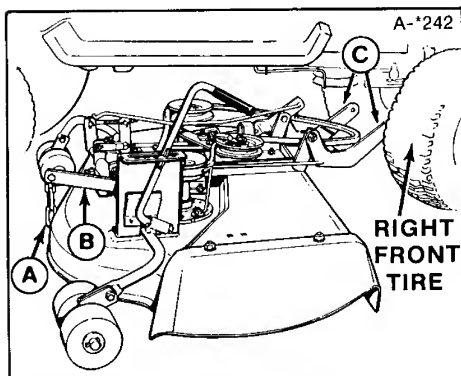
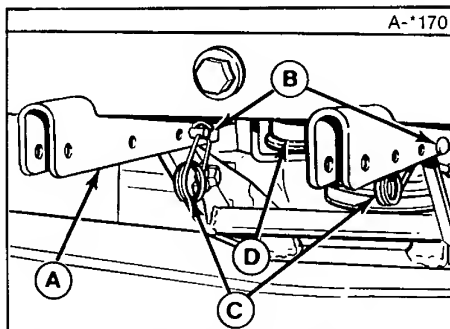

Figure 1. Installing 36" Mower
Figure 2. Mower Hitch Attached
The lift chain (A, figure 1) should be connected to the rear hole in the mower lift arm (B).
2. Turn the tractor front wheels full left (figure 1).
aligning arms (C, figure 1) with tractor hitch (A, figure 2).
5. Attach the mower hitch arms to the rear holes in the tractor hitch (figure 2) using the two pins and safety clips provided.